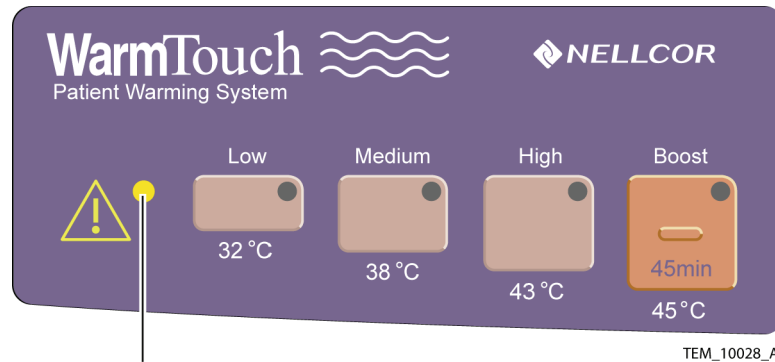

Figure 10. Warning Light
13. When the alarm starts to sound and the warning light indicator lights, stop the stopwatch. See Figure 10.